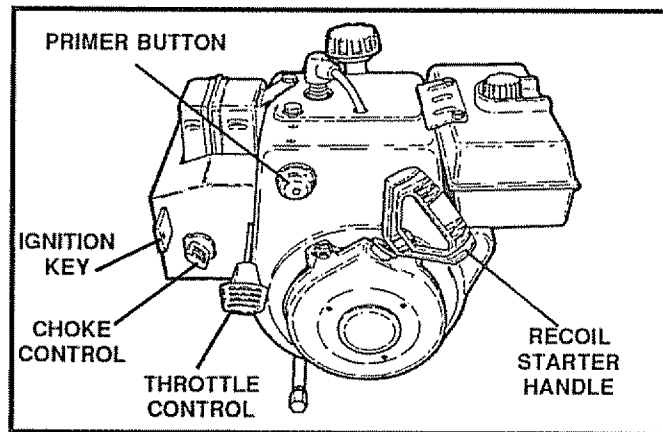

FIG. 9
- To stop the engine, push the throttle control lever to off and pull out the ignition key (See Fig. 9).